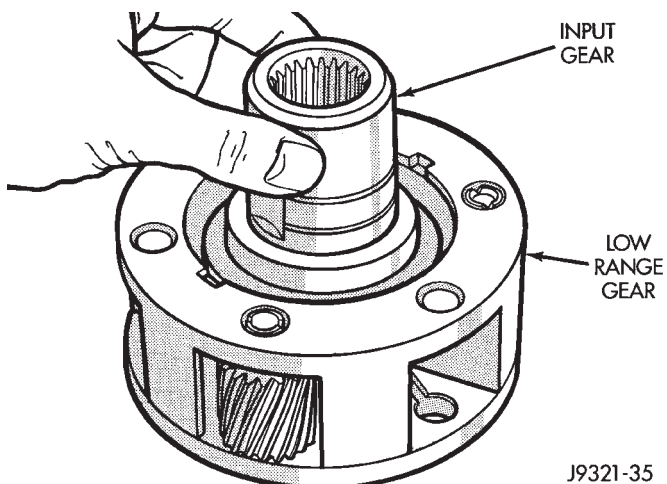

Fig. 38 Input Gear Removal
- (4) Remove input gear (Fig. 38).